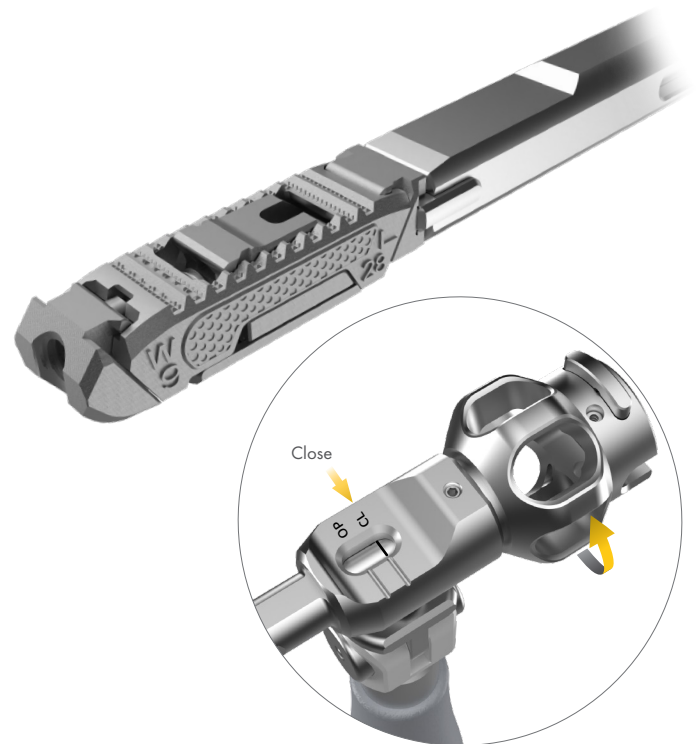

Fig. 7
While holding the implant in place, turn Cage Inserter knob clockwise to secure the implant. Turn the knob until it won't turn anymore. Make sure the locking mechanism is in its Closed (CL) state at this point. (Fig. 7)